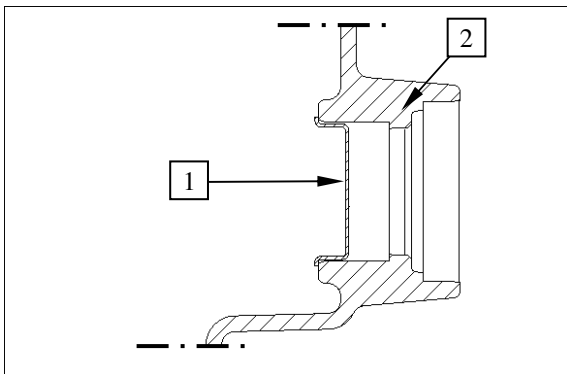

Figure 10
Use the driver tool (S) to place screen sheet (1) into the transmission housing (2) until contact is obtained (see Figure 10).